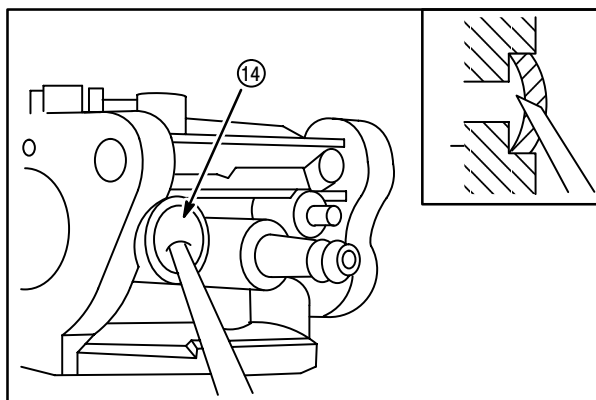

Fig. 29
10. Use a punch as shown and remove throttle shaft welch plug (14), **Fig. 29**.